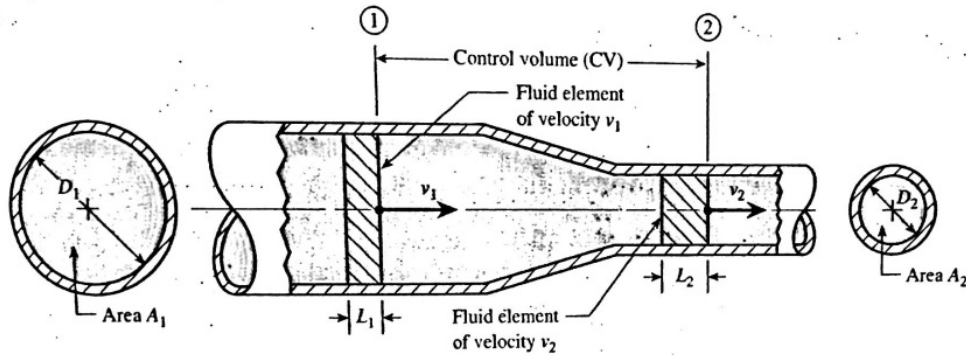

Fig.1
This theorem states that mass can neither be created nor destroyed. For steady flow, the rate at which mass enters a control volume equals the rate at which mass leaves this volume. In fig.1, fluid is flowing from left to right. The pipe has two different sizes (A_1 and A_2). The volume between 1 and 2 is the control volume (CV). The rate at which the mass enters equals the rate at which the mass leaves CV.
From fig.1 let M represent the rate at which mass enters or leaves the CV, we have $M_1 = M_2$, thus for steady flow the mass flow rate at the inlet to the CV equals the mass flow rate at the exit from the CV.